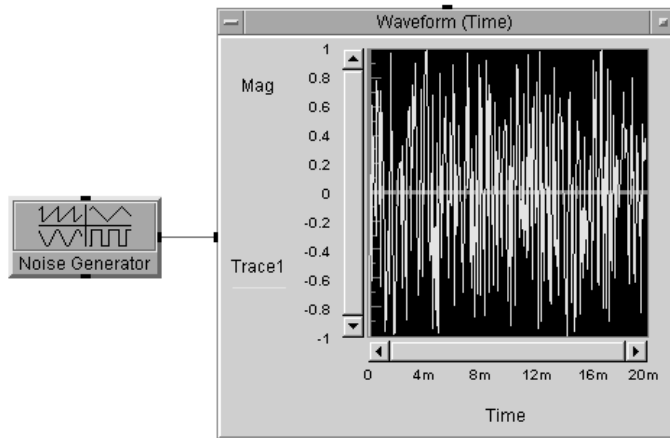

Figure 124 Displaying a Waveform
- 3 Connect the data output of the Noise Generator to the data input of Waveform (Time) and run the program. It should look like Figure 124.